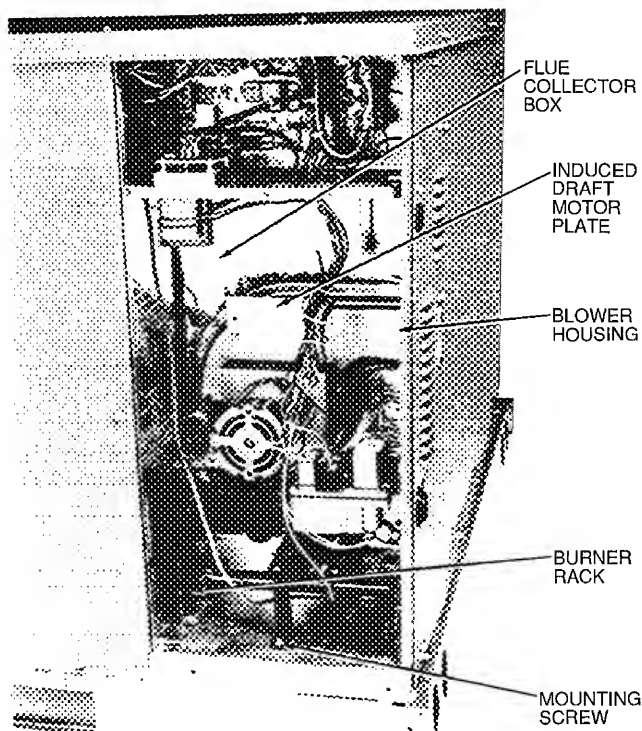

Fig. 31 — Blower Housing and Flue Collector Box
2. Remove the 3 screws holding the blower housing to the flue collector box cover (see Fig. 31).
3. Remove the 12 screws holding the flue collector box cover (Fig. 31) to the heat exchanger assembly. Inspect the heat exchangers.
2. Remove the 7 screws that attach induced-draft motor mounting plate to blower housing. (See Fig. 31.)
7. Remove the mounting screw that attaches the burner rack to the basepan. (See Fig. 31.)
8. Slide the burner rack out of the unit. (See Fig. 31 and 34.)